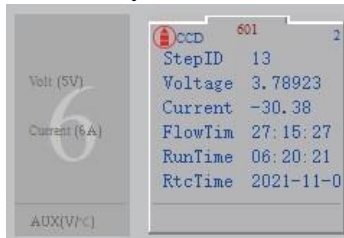

Figure 4-10 Equipment information display
1. Equipment information display: the leftmost part of the channel data display area is the equipment information display area, and the voltage and current displayed are the range of the equipment; Other parameter names correspond to the parameter values of the channel on the right. The following figure shows that the current device is 5V6A. (Figure 4-10)